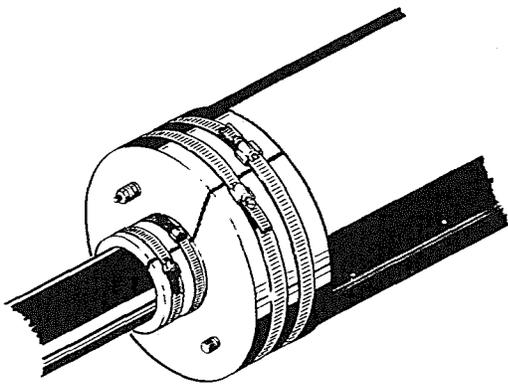

Figure 34. Fasten Hose Clamps
7.37 Fasten hose clamps per Figure 34.